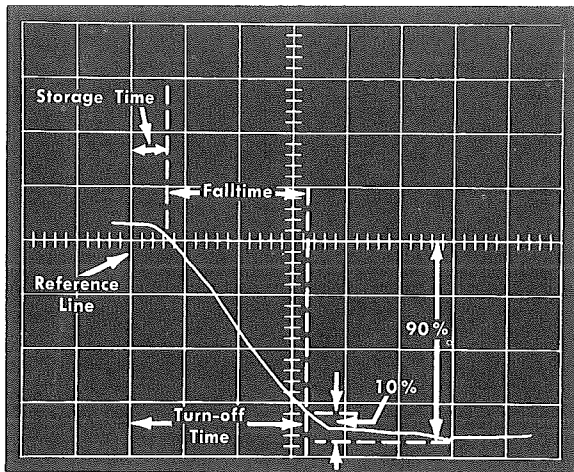

Fig. 3-14. Measuring transistor turn-off characteristics from the trailing edge of the collector output signal.
6. Turn pulse generator on, Type 290 POWER/POLARITY switch to NPN or PNP (depending on type of transistor under test and set oscilloscope controls for collector output signal trailing-edge display similar to that shown in Fig. 3-14. Use this display to measure the transistor turn-off characteristics. (For dual-trace test systems, use the signal from the Type 290 50 Ω OUTPUT connector to obtain the display.)